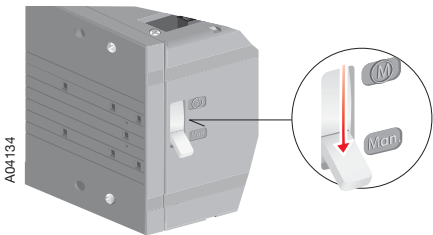

Figure 6.5 Motor/Manual selection in the Man. position
1. Turn the Motor/Manual selector to the Manual (Man.) position, see Figure 6.5. The motor operator is switched off and electrical control is prevented.